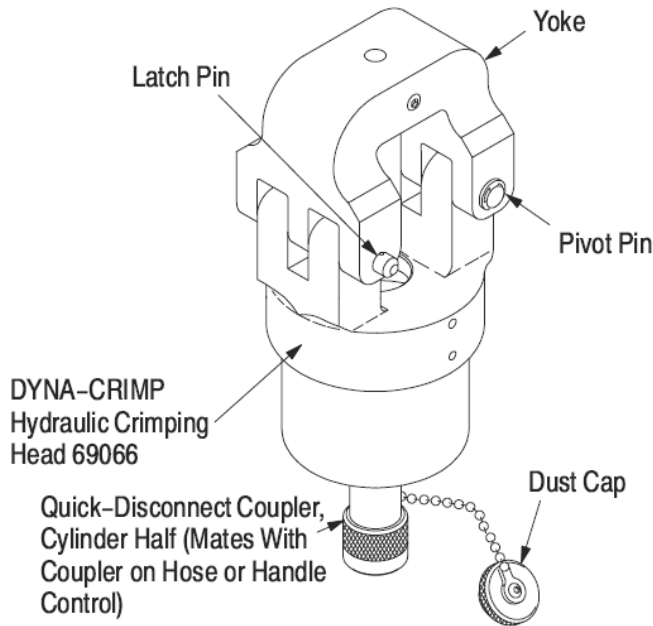

Figure 1
This instruction sheet covers application, inspection and maintenance procedures for DYNA-CRIMP Crimping Head 69066 shown in Figure 1. The crimping head uses interchangeable crimping dies used to crimp products listed in Figure 2. This instruction sheet provides general information for the insertion of dies and the crimping procedure. Always refer to the instructions packaged with specific die sets for specific crimping instructions.
1. Thoroughly clean coupling area of handle control or hose assembly and crimping head (see Figure 1).